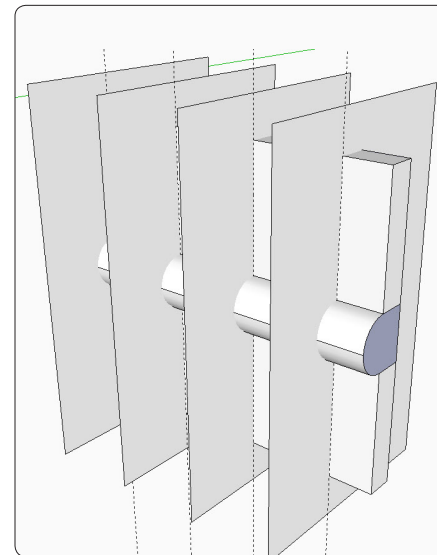

Figure 107. Divide the knuckle into equal segments, then draw and place cutting planes at the divisions.
Step 5 Place guide lines to divide the knuckle. In this case, it's divided into four segments, with a half segment at each end. Draw cutting planes and place them at the dividing points (Figure 107).